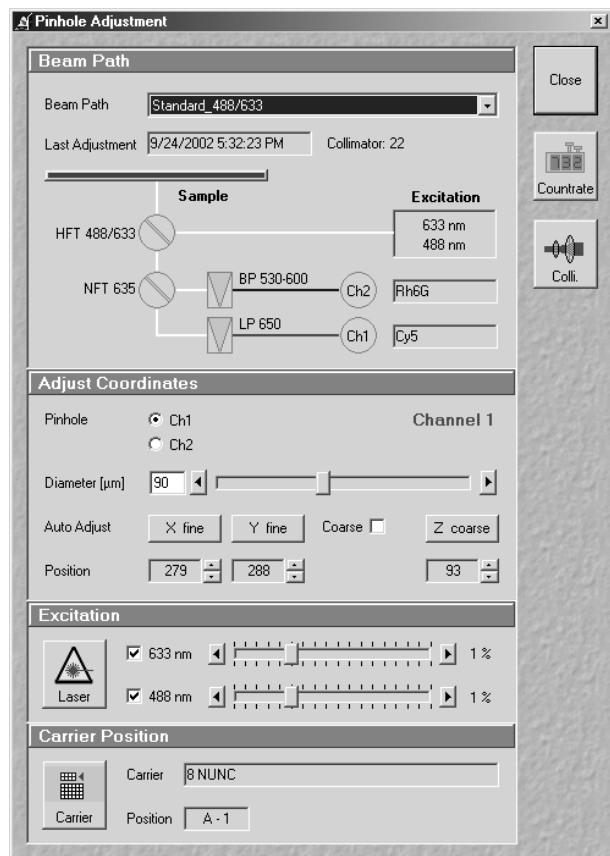

Fig. 5-199 Pinhole Adjustment window
- Click the **Pinhole** button in the **Config FCS** toolbar subordinate of the **Main** menu. The **Pinhole Adjustment** window will appear (Fig. 5-199).